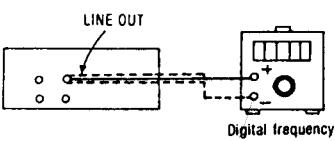

Fig. 3
<p>Fig. 3</p>
2. Adjust the VR in the motor (see Fig. 3) so that the output is within the standard value.